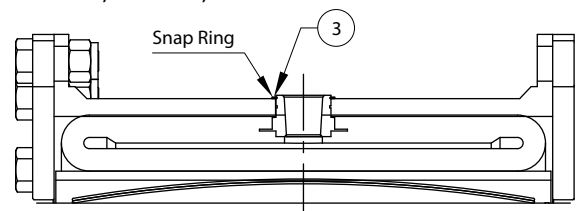

Figure 10
Note : The snap rings may no longer be required on certain size elements. Also, rims manufactured before 1984 were counterbored at the tube valve hole to accept the snap ring. This counterbore has been eliminated, and a second snap ring groove has been added to the tube valve. See Figure 10.
4.6.5 Place a torque bar in each mating hole in the side plate, slide a friction shoe assembly onto each torque bar and carefully tap a release spring (51HEVC1600, 60HEVC1600, 66HEVC1600 and 76HEVC1600 elements have two release springs in each cavity) into place. Make sure the spring is positioned on the side of the torque bar opposite the friction lining. Also, the spring must contact the torque bar at two points, not one. See Figure 10.